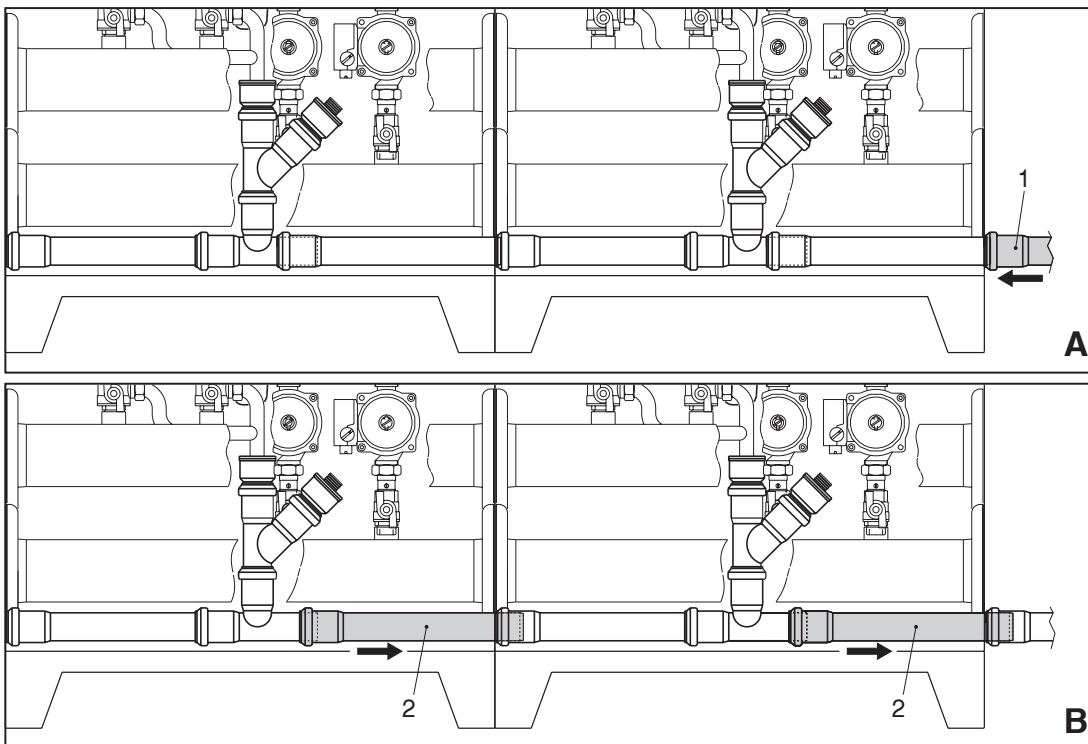

Fig. 8
- Before tightening the nuts, check all the seals are correctly positioned and couple together the condensate outlet pipes of the two modules (see Fig. 8).